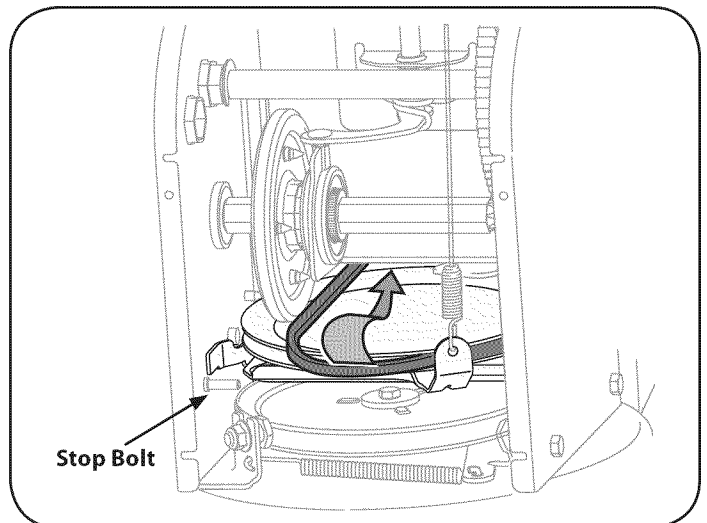

Figure 28
6. Back out the stop bolt to increase the clearance between the friction wheel disc and friction wheel. See Figure 28.
7. Slip the drive belt off the pulley and between friction wheel and friction wheel disc. See Figure 28.